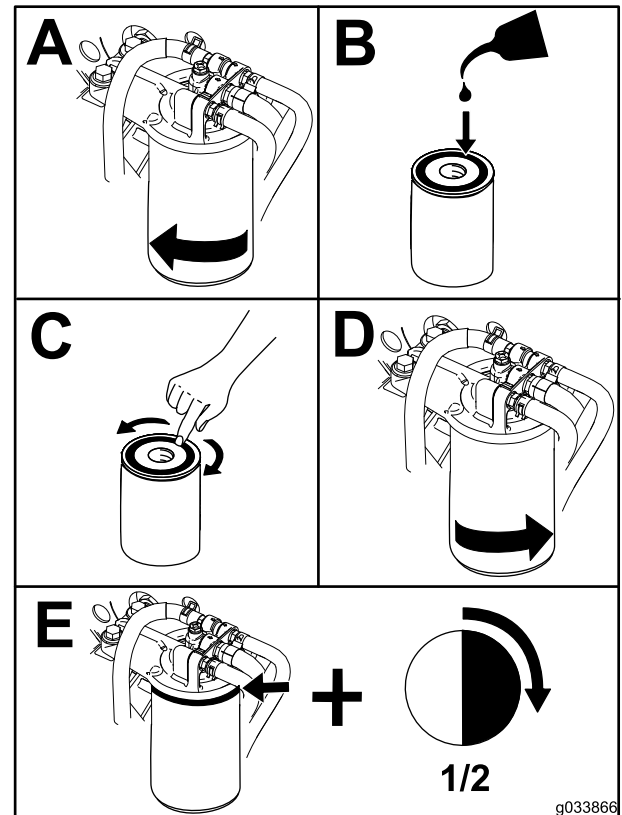

Figure 57
1. Clean the area around the filter head (Figure 57).